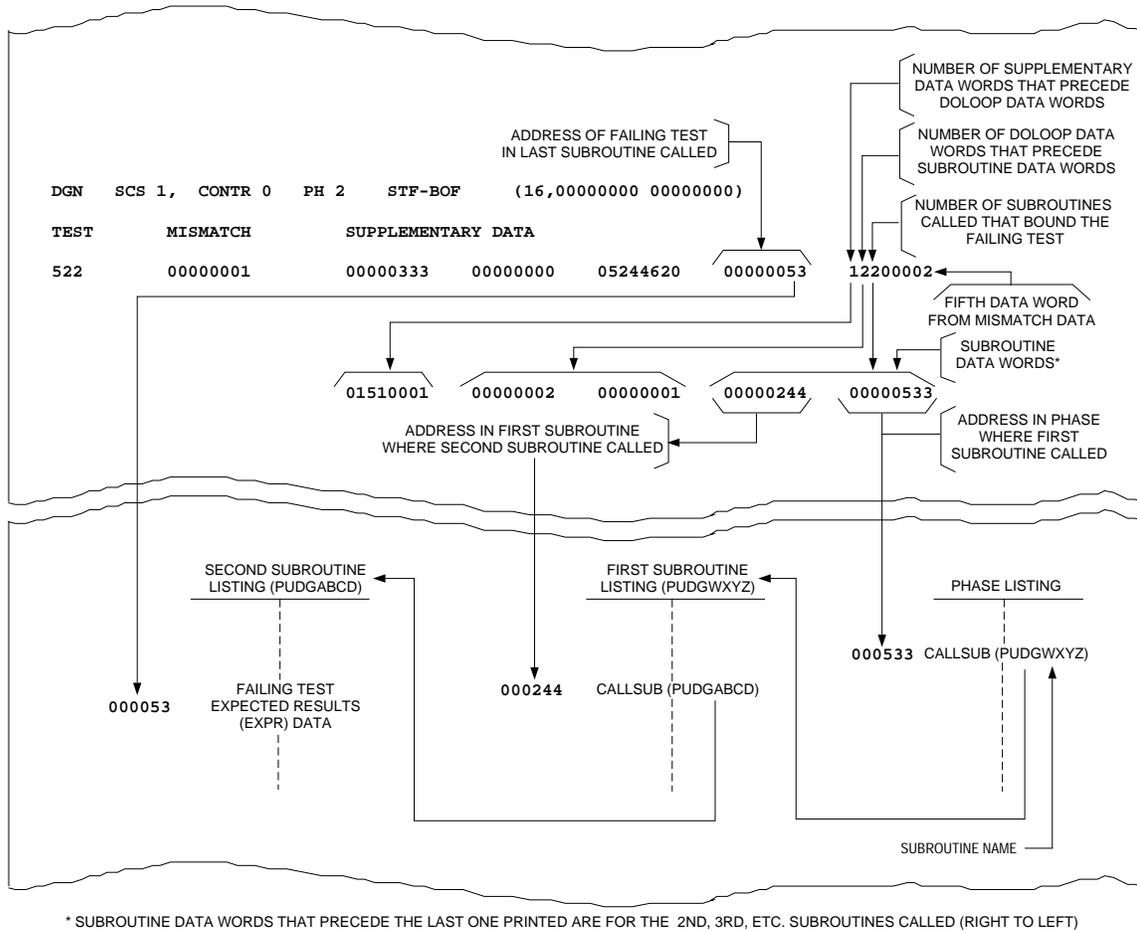

Figure 1. Relationship of Subroutine Data Words to Phase and Subroutine Listings
11. On the raw-data printout, locate the next preceding subroutine data word. (See Figure 1.)